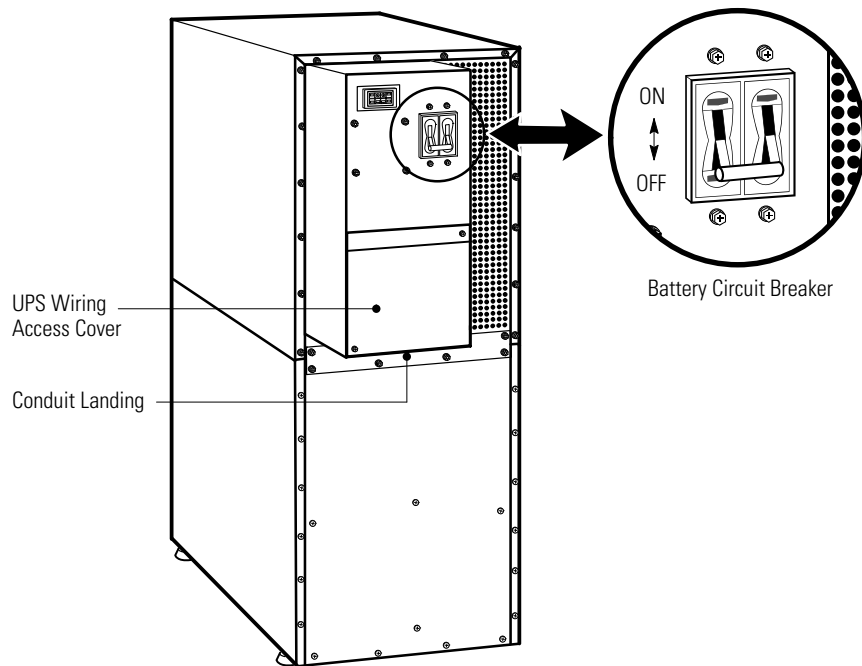

Figure 6. UPS Rear View
5. Verify that the UPS battery circuit breaker is in the OFF position (see Figure 6).
6. Remove the UPS wiring access cover and retain (see Figure 6).